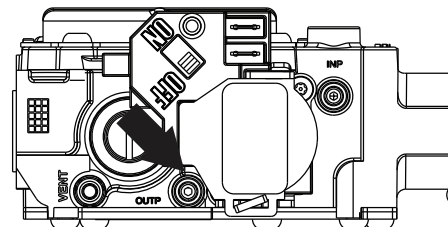

Fig. 10 – Control Switch to OFF
5. Turn the control switch on the gas control to the OFF position and wait five minutes (see Fig. 10). Then smell for gas, including near the floor. If you smell gas, STOP! Follow “B” on furnace label. If you don’t smell gas, go to next step.
5. Turn control switch on the gas control to "OFF" position (see Fig. 10).